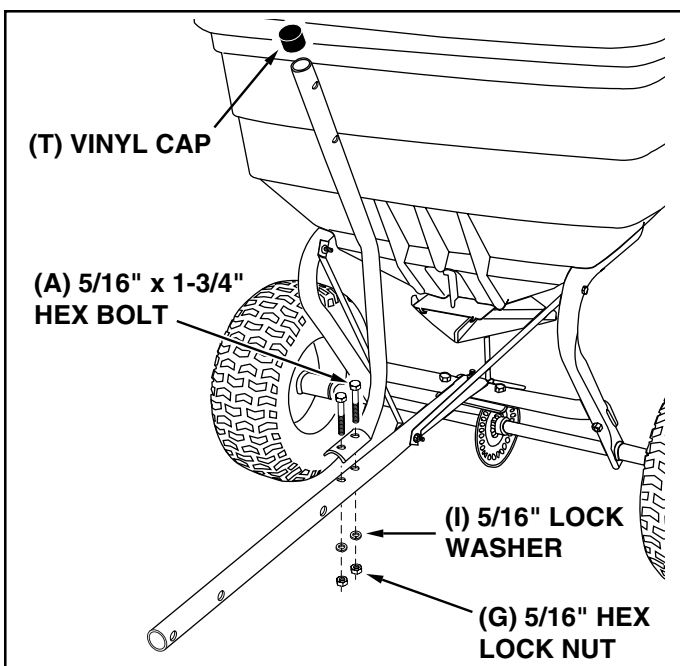

FIGURE 5
13. Assemble the flow control mounting tube to the hitch tube using two 5/16" x 1-3/4" hex bolts (A), 5/16" lock washers (I) and 5/16" hex lock nuts (G). **DO NOT TIGHTEN YET**. See figure 5.
14. Assemble the vinyl cap (T) onto the flow control mounting tube. See figure 5.